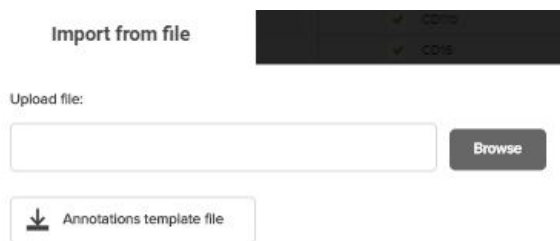

Figure 21: Manage Annotations window
2. Download the **Annotations template file** (see Figure 21) to a USB or, if accessing remotely, to a remote file location.